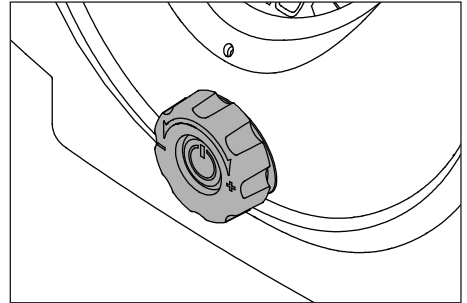

Figure 4 - Pressure Selector Dial
2. When the universal adapter is firmly in place, press the locking lever down. (See Figure 4).